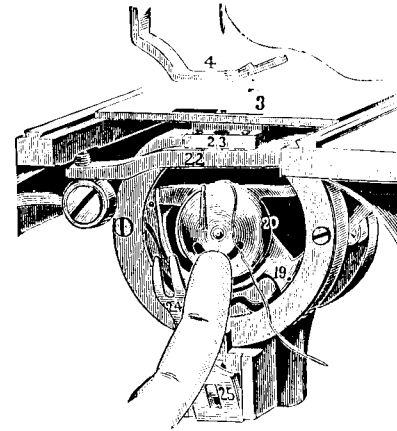

Fig. 4
Remove the bed slide (front), press latch (25) down, drop bobbin case holder (24), place the forefinger nail in the slot of the bobbin case as shown in Fig. 4, and draw the bobbin case out.